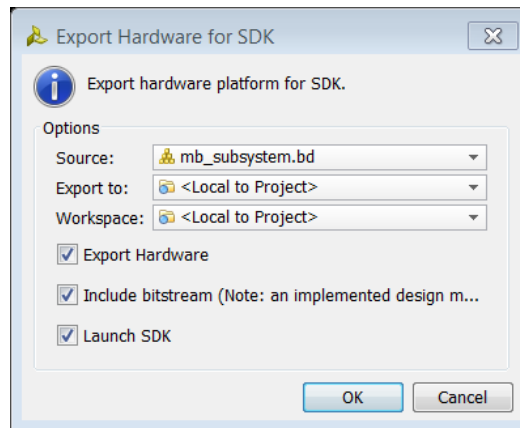

Figure 132: Export to Hardware Dialog Box
2. In the Export to Hardware dialog box, click to select the **Launch SDK** check box (Figure 132).